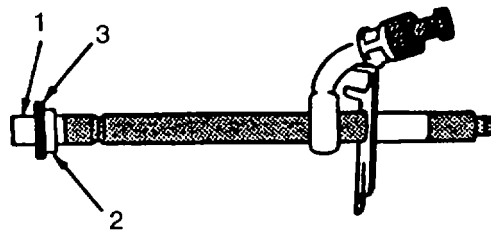

FIGURE 3-113. Fuel Injection Nozzle Seals
- a. Position protector cap (1, FIGURE 3-113) over nozzle tip. A nozzle protector cap can be found on every new or replacement nozzle.
- b. Position a new carbon stop seal (2) on protector cap. Use a new seal washer (3) to help slide the carbon seal (2) into place until it seats in its groove on nozzle body.
- c. Continue to slide seal washer (3) onto nozzle body until it seats against inlet fitting.